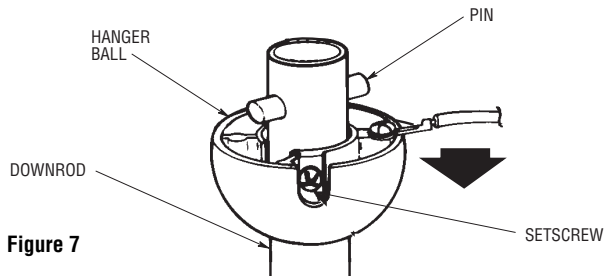

Figure 7
- 12. Remove the hanger ball by loosening the setscrew in the hanger ball until the ball falls freely down the downrod (Figure 7). Remove the pin from the downrod, then remove the hanger ball. Retain the pin and hanger ball for reinstallation in Step 15.